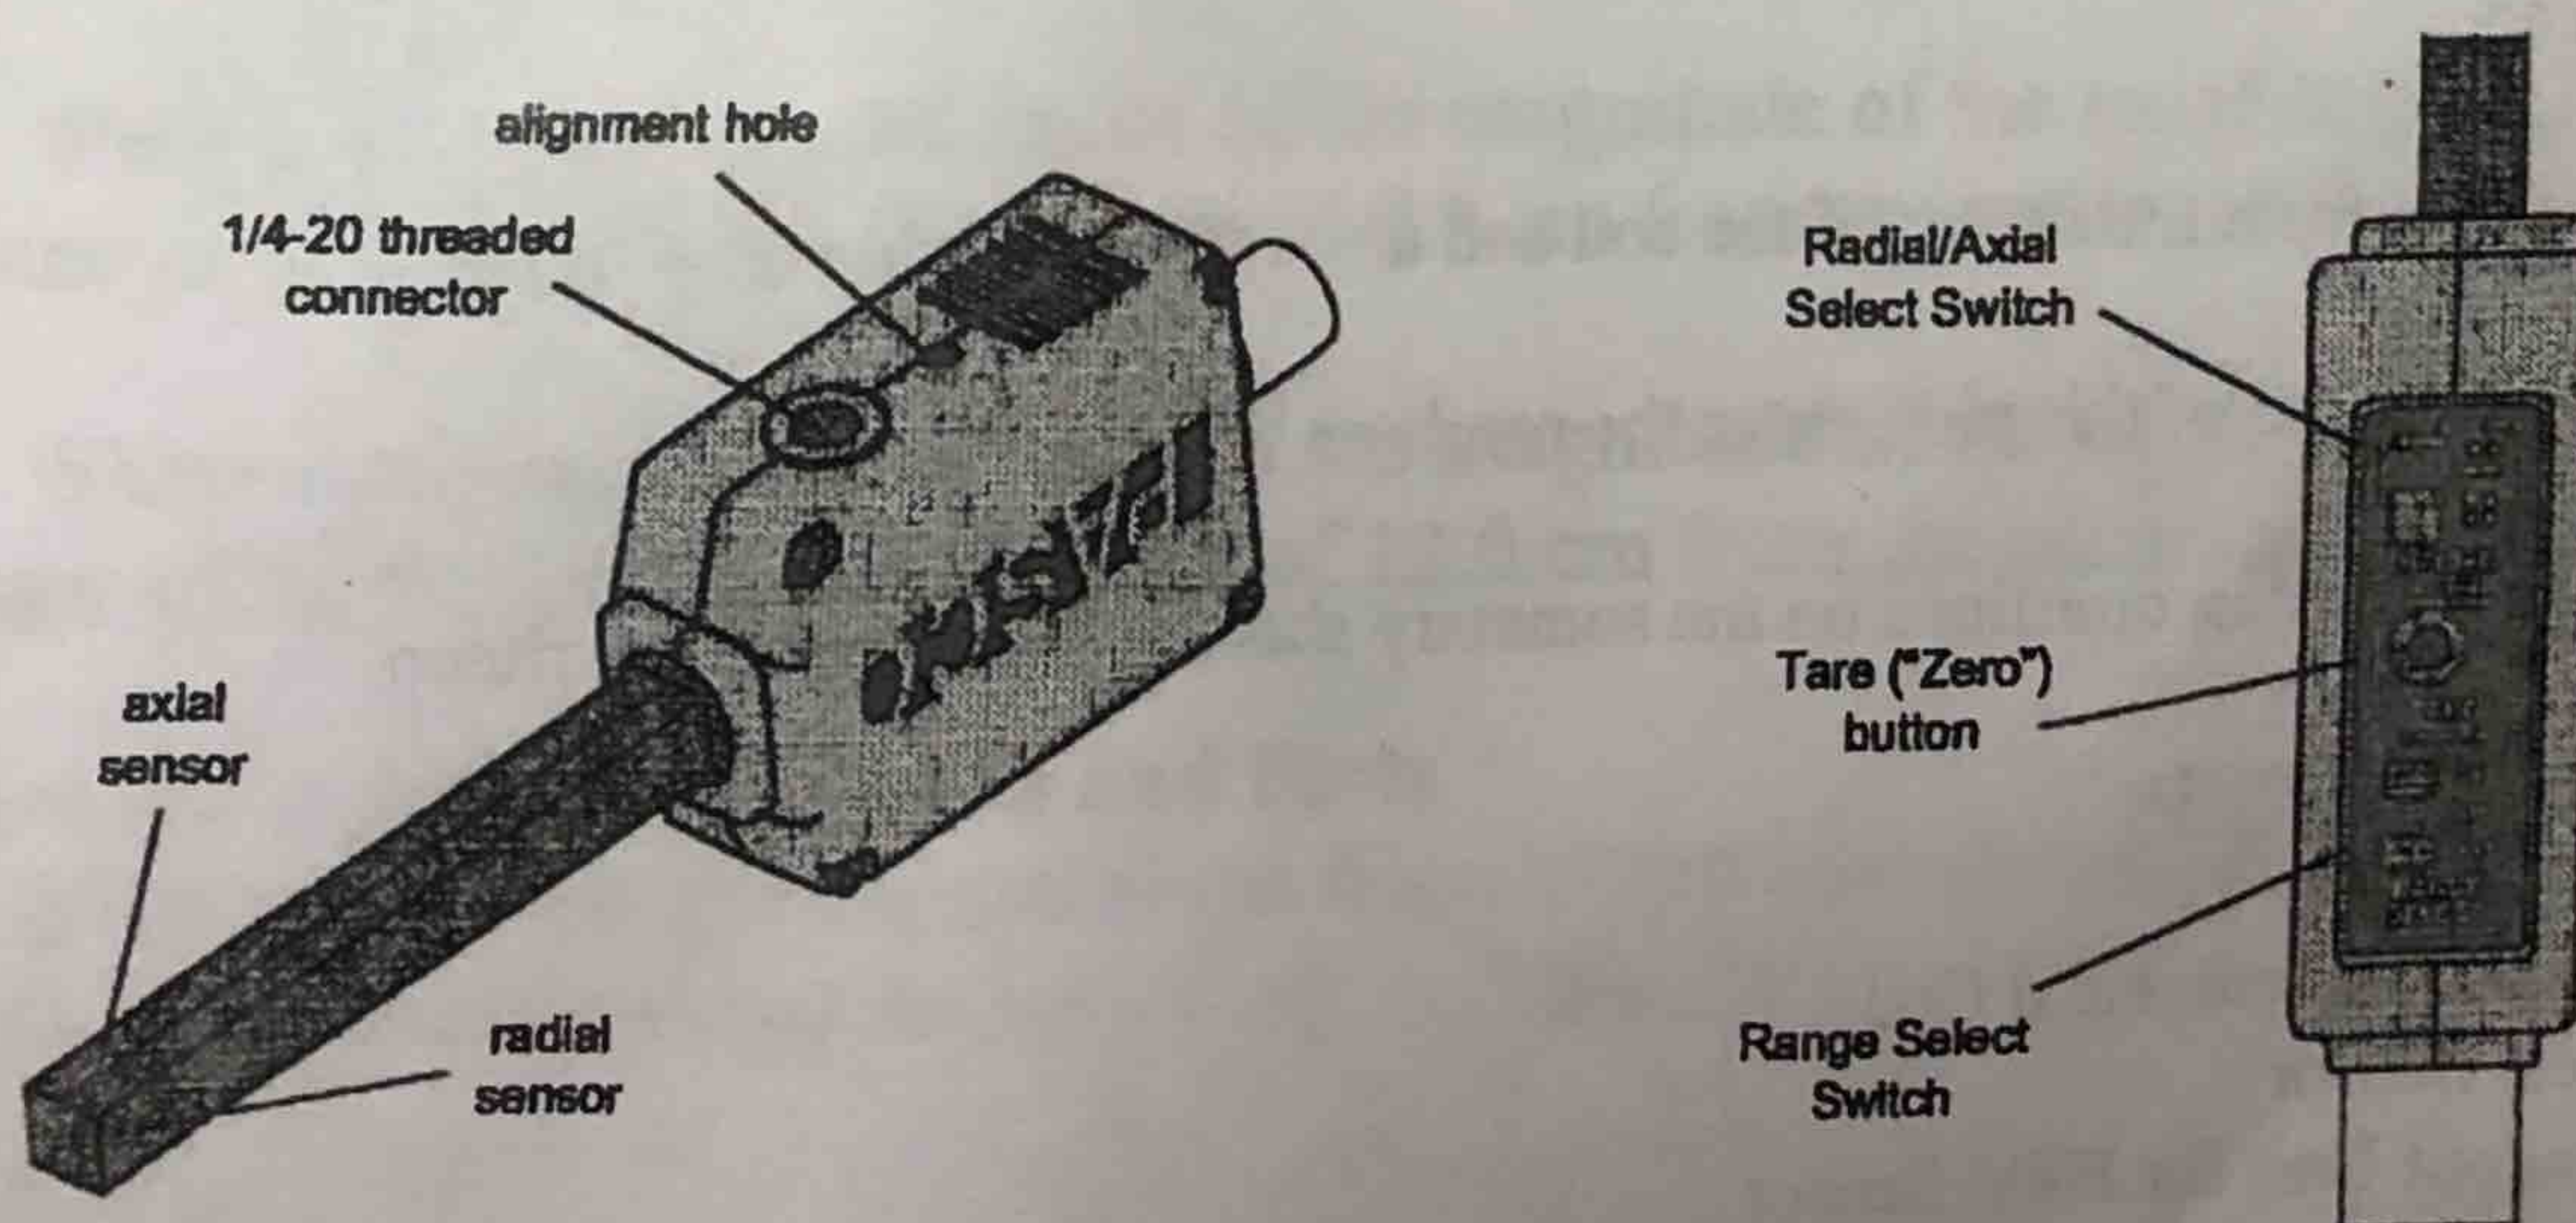

Fig. 1. Magnetic Field Sensor
6. Turn on the multimeter connected to the readout box and then zero the sensor output by pressing the TARE button on the top of the sensor. (See Fig. 1 below).